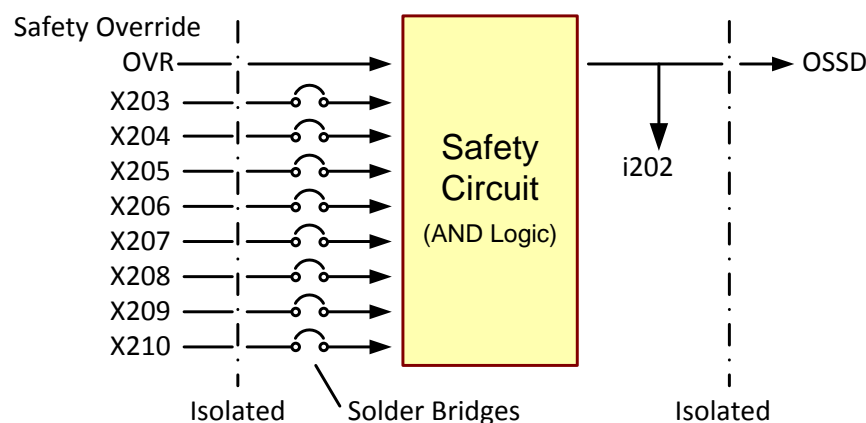

Figure 31, On board safety circuit
**Figure 31** shows the safety circuit block and relevant I/O including, inputs, solder-bridge, and override input and outputs.